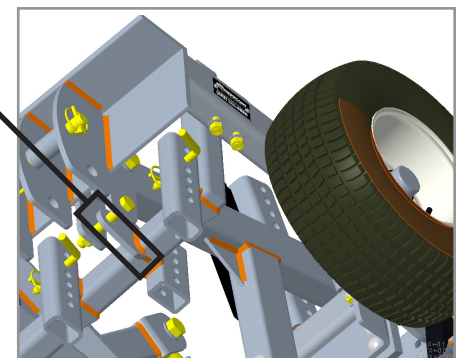

Figure 8.4
5. Slide bolts (removed in step 1) through existing frame and ears on mounting bar and re-tighten nuts using (2) 15/16" wrenches (**Figure 8.4**).